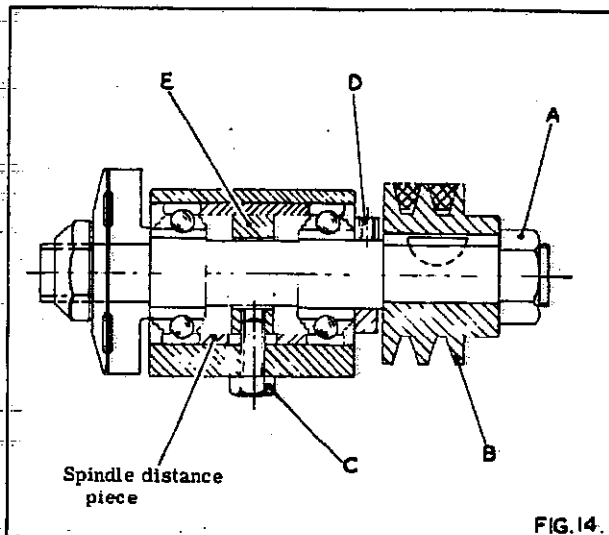

FIG. 14.
3. Remove the 1" fine thread nut (Right hand thread) "A", in fig 14, remove spindle pulley "B", which is keyed to the spindle.
The bearings should now be replaced as the arrangement in fig 14. Care should be taken not to pre-load the bearings i.e. the spindle distance piece should be just free between the two bearings.
1. Loosen the hexagon head adjuster bolt "C" in fig 14, and tap spindle as required taking care not to damage the threads on the spindle end. Place a steel rule along both sides of riving knife to check whether the saw is central.